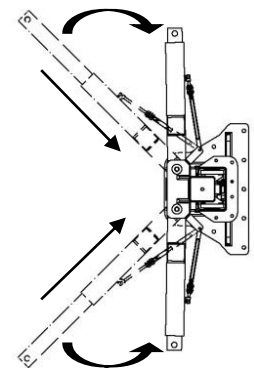

FIGURE 16 : SWING ARMS POSITION
2. RETRACT THE EXTENSION OF THE SWING ARMS TO THE MINIMUM AND OPEN AS FAR AS POSSIBLE TO CLEAR THE SPACE BETWEEN THE COLUMNS. **SEE FIGURE 16.**
13. RETRACT THE EXTENSION OF THE SWING ARMS TO THE MINIMUM AND OPEN AS FAR AS POSSIBLE TO CLEAR THE SPACE BETWEEN THE COLUMNS. SEE **FIGURE 16**.
1. RETRACT THE EXTENSION OF THE SWING ARMS TO THE MINIMUM AND OPEN AS FAR AS POSSIBLE TO CLEAR THE SPACE BETWEEN THE COLUMNS. SEE **FIGURE 16**.